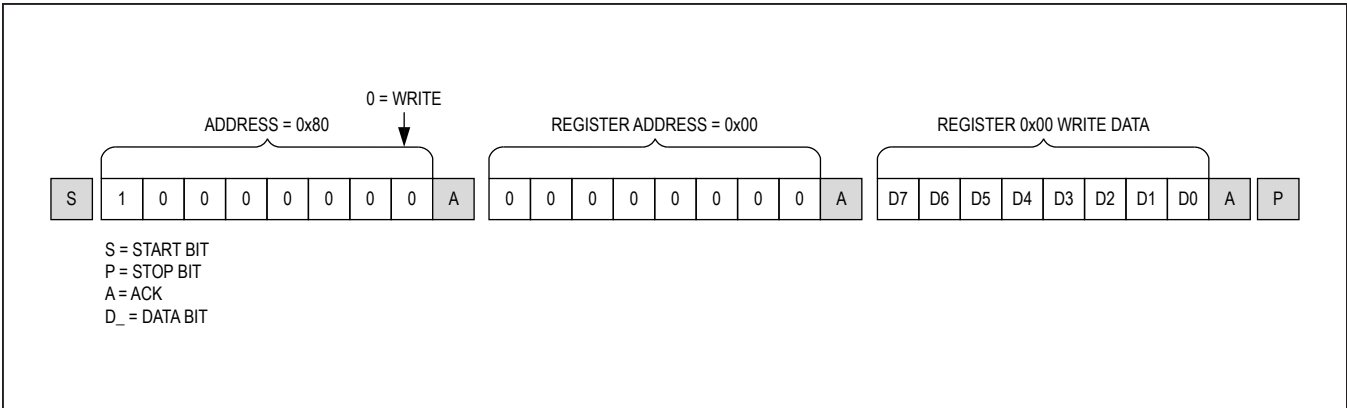
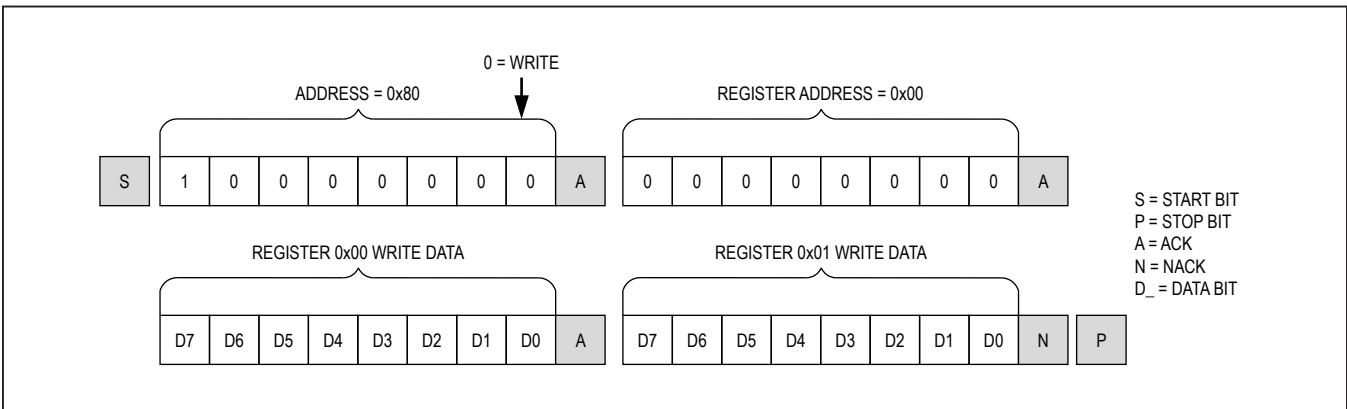

Figure 51. Format for I2C Write
Figure 52. Format for Write to Multiple Registers
address determines which register of the device is to be written by the next byte, if received. If a STOP (P) condition is detected after the register address is received, the device takes no further action beyond storing the register address (Figure 51). Any bytes received after the register address are data bytes. The first data byte goes into the register selected by the register address, and subsequent data bytes go into subsequent registers (Figure 52). If multiple data bytes are transmitted before a STOP condition, these bytes are stored in subsequent registers because the register addresses autoincrement.